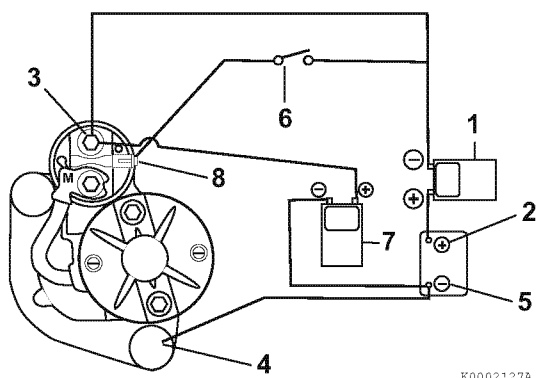

Figure 10-35
2. Connect an ammeter (1, **Figure 10-35**) in series between the battery positive (+) terminal (2, **Figure 10-35**) and the main positive (+) terminal (3, **Figure 10-35**) on the starter motor.
3. Connect a wire lead between the mounting base of the starter motor (4, **Figure 10-35**) and the battery negative terminal (5, **Figure 10-35**).
4. Connect a voltmeter (7, **Figure 10-35**) to the battery negative (-) terminal (5, **Figure 10-35**) and the main positive (+) battery terminal (3, **Figure 10-35**) on the starter motor.
5. Install a switch (6, **Figure 10-35**) in a circuit between the battery positive (+) terminal (2, **Figure 10-35**) and the starter magnetic switch (solenoid) terminal (8, **Figure 10-35**) on the starter motor.